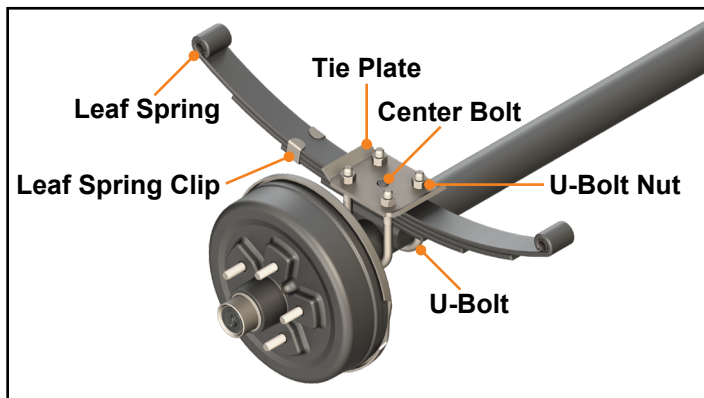

Fig.6
15. Position new U-bolts and tie (spring) plate on the axle (Fig. 6).
B. Hand-tighten nuts until snug. (Fig. 6).
I. Center bolt is engaged in tie (spring) plate (Fig. 6).
II. Leaf spring is square to the axle (Fig. 6).